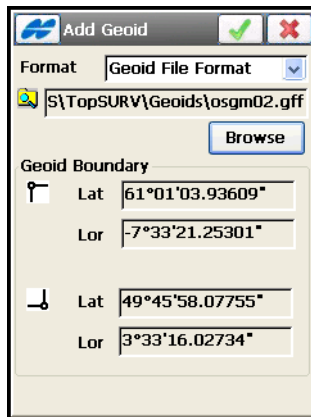

Figure 4-93. Geoid Parameters
2. On the **Add Geoid** screen (Figure 4-93 on page 4-73):